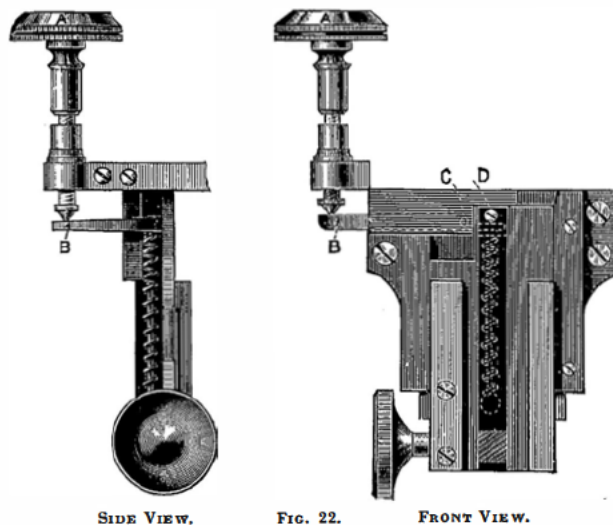

FIG. 22.
The Substage is of specially substantial construction; it has rectangular screw adjustments to centre, very fine rackwork to focus, and is arranged to swing out of the optical axis. A **Fine Adjustment** is included with the Grand Model instrument. It may be either of two patterns: (1) to work from above the Stage surface by the method shown in Fig. 22 and in position on the Instrument on page 87, or (2) by means of a vertical lever worked by a milled head, mounted parallel with and just above the rackwork milled head of the Substage, as shown (F) on the Royal Instrument on p. 79. The former method of mounting entails a slight extra charge (£1 5 0).